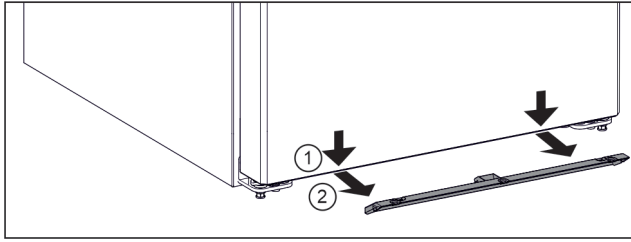

Fig. 6
- ▶ Pull the mosquito screen down. Fig. 6 (1)
- ▶ Take out the mosquito screens to the front. Fig. 6 (2)